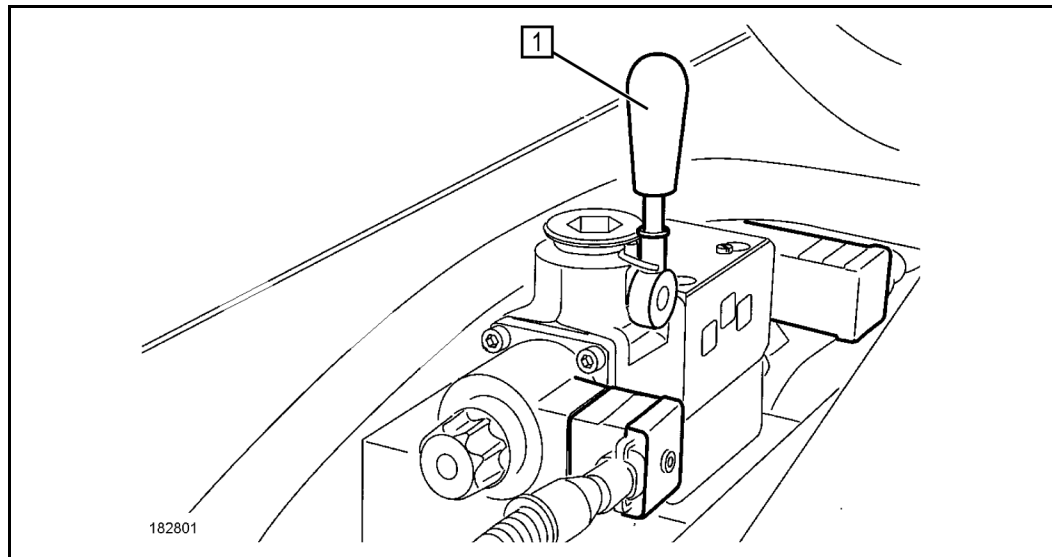

Fig. 109
The control lever (1) (**Fig. 109**) may only be installed for testing purposes on the directional valve of the pilot control unit.
- Switch on the concrete pump with the control lever (1) (**Fig. 109**).